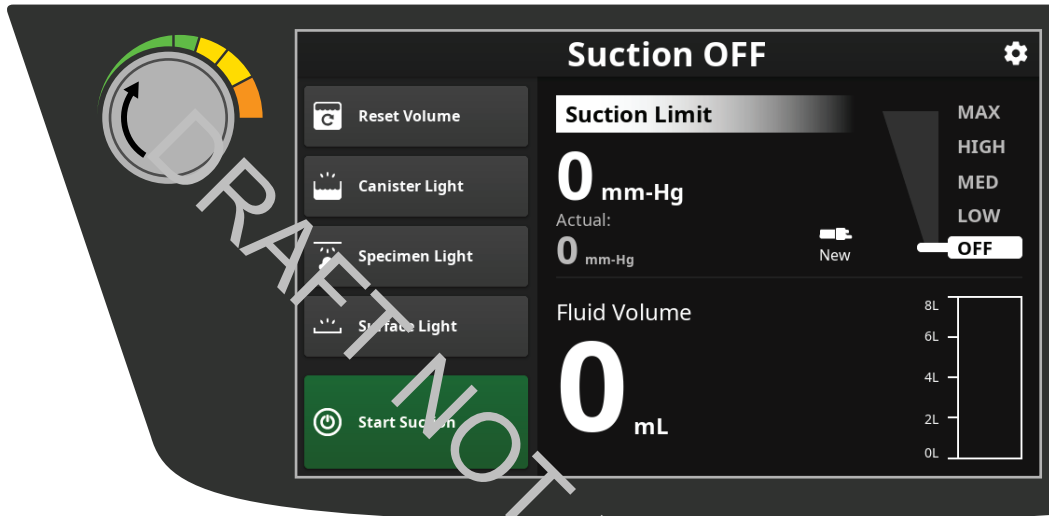

Figure 17 – To Start and Adjust Suction
4. Touch the START SUCTION button (Figure 17).